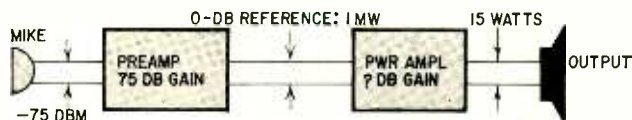

Fig. 2—Having a reference level lets us express levels in db—or, more properly, dbm.
*Fig. 2—Astatic Magna-Flo mount protects discs and styli by using weak repellant magnetic force to set stylus pressure. Sudden shock overcomes repulsion, retracts cartridge and stylus. Additional advantage of magnetic suspension is described in text.*
However, Astatic goes beyond this. To keep the cartridge in its proper operating position and to maintain proper stylus contact with the groove, the Magna-Flo utilizes the *repulsion* effect of two magnets (Fig. 2)—one mounted on the cartridge itself and the other on the mount. A heavy shock overcomes the repulsion of the magnets but, once the shocking force is removed, the magnetic force pushes the cartridge and its stylus back into normal position and into firm contact with the groove.
Suppose we have a mike rated at -75 dbm, and want to use it with a preamp-amplifier system to produce 15 watts (Fig. 2). How much power gain must the system have? Microphones are almost universally rated against a reference level of 1 milliwatt. To distinguish "db with respect to 1 mw" from ordinary decibels, we use the term "dbm".
I installed the plastic conversion sleeve that changed the neck diameter from 1 1/8 to 1 1/2 (Fig. 1). Pulled out the 16KP4. Inserted the 8YP4 in its place. Then I put on the pin-socket adapter that changed the shell base to a duodecal (Fig. 2), put the high-voltage lead in, the CRT cap on, and turned on the TV. It took less than 3 minutes.
*Fig. 2—The three CRT socket types. 8YP4 has shell base, so you'll need adapters. Some newer tubes have unusual base-pin connections; if you meet one, you'll need a second shell-to-button adapter since the heater pins are different.*